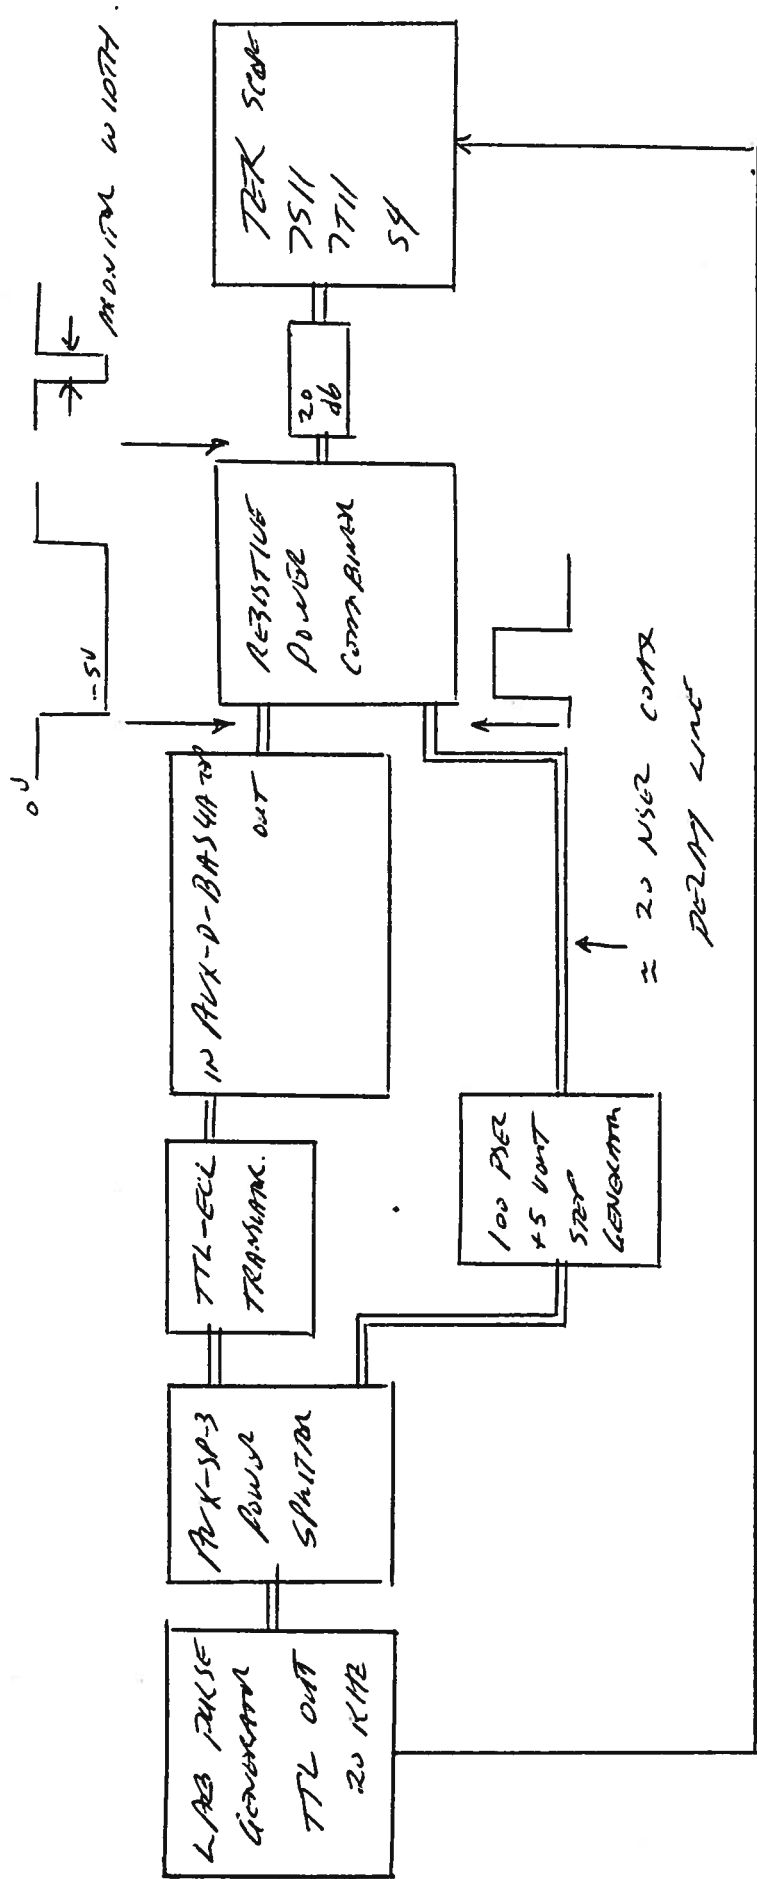

FIG 1 AUX-D-BAS 4A-60 DELAY STABILIZER
- 4) The stability of the propagation delay and the step size was checked using the test arrangement shown in Fig. 1.